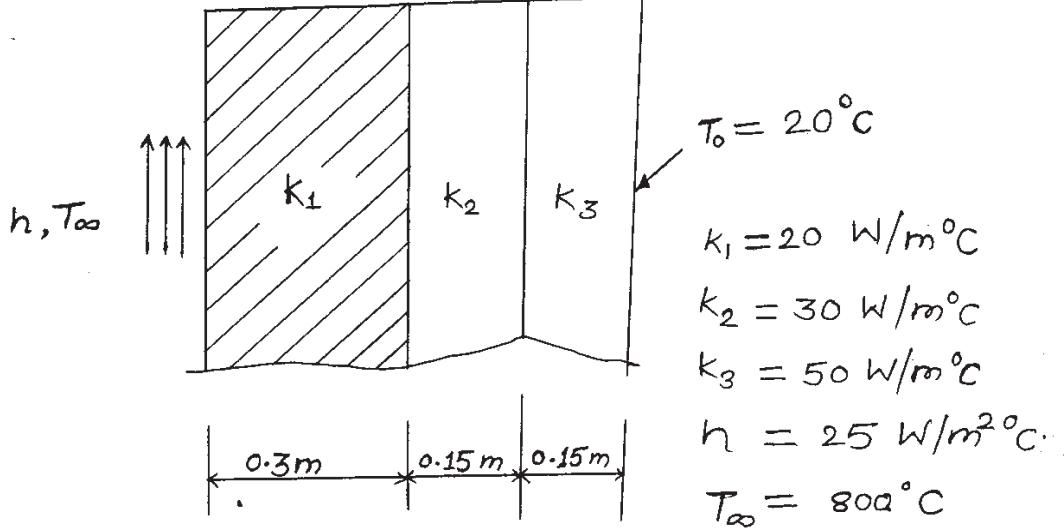

Figure 5.1
- b) A composite wall consists of three materials as shown in figure 5.1. The outer temperature is $T_0 = 20^\circ \text{C}$. Convection heat transfer takes place on the inner surface of the wall with $T_\infty = 800^\circ \text{C}$ and $h = 25 \text{ W/m}^2 \cdot ^\circ\text{C}$. Determine the temperature distribution in the wall. [8]